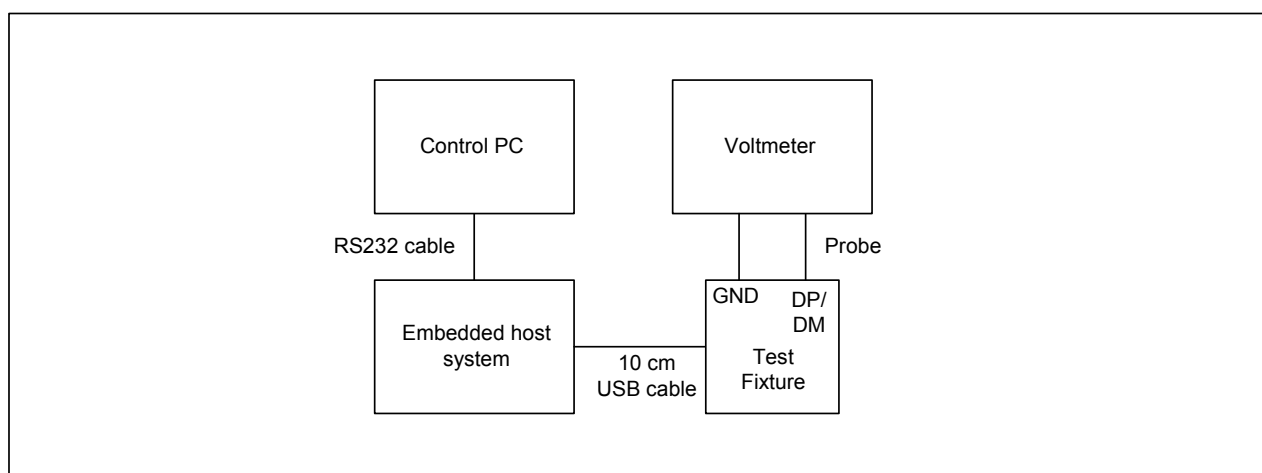

Figure 5-7 Host Test_J/K, SE0_NAK testing configuration
Measures the HS driver DC drive capacity. This measurement is made if the system supports HS devices. Figure 5-7 shows the testing configuration.
1. Connect as shown in Figure 5-7.
Correct	Changed "Captive USB cable" to "10 cm USB cable" in Figure 5-7.